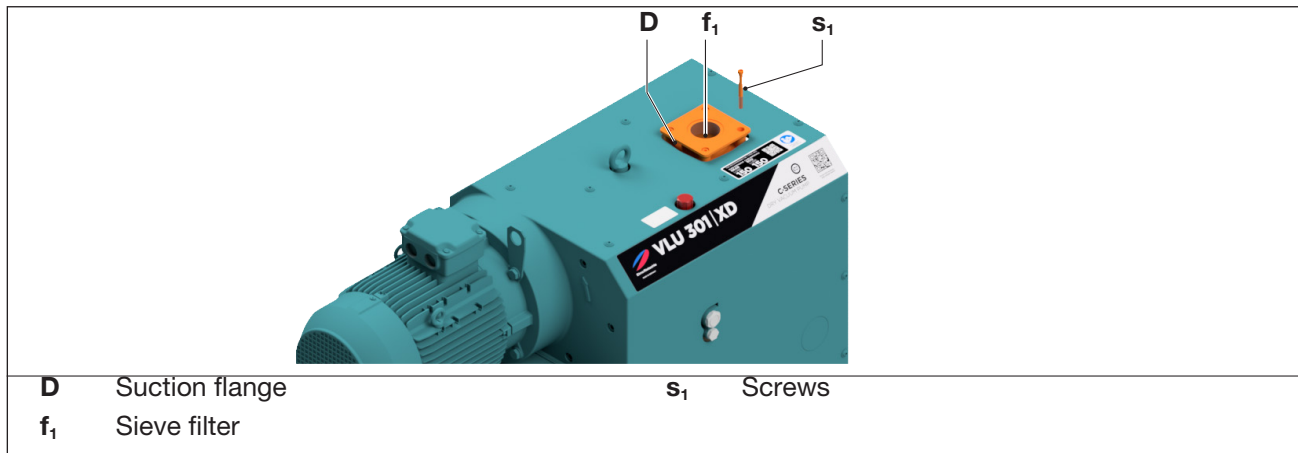

Fig. 6 Mesh filter
- Take off the inlet flange (Fig. 6/D) after releasing the screws (Fig. 6/s1).
- Clean the mesh filter (Fig. 6/f1). Also check the non-return valve (Fig. 6/D1) for pollution and clean it if necessary.
- Remount the intermediate flange (Fig. 6/D2) with mesh filter (Fig. 6/f1) as well as the inlet flange (Fig. 6/D) and tighten the screws (Fig. 6/s1). Tightening torque: 10 Nm.